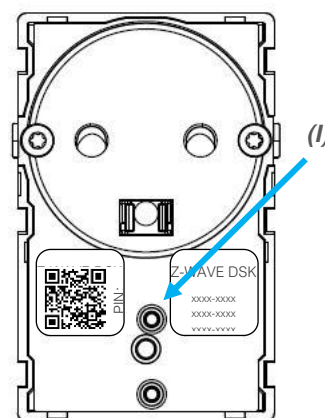

Figure 6b: Classic Inclusion/Exclusion
Add ZSO7300 to a network with Classic Inclusion by pressing once on the switch (I) behind the pushbutton-cover (Figure 6b). The LED will start blinking blue when the adding process is started.